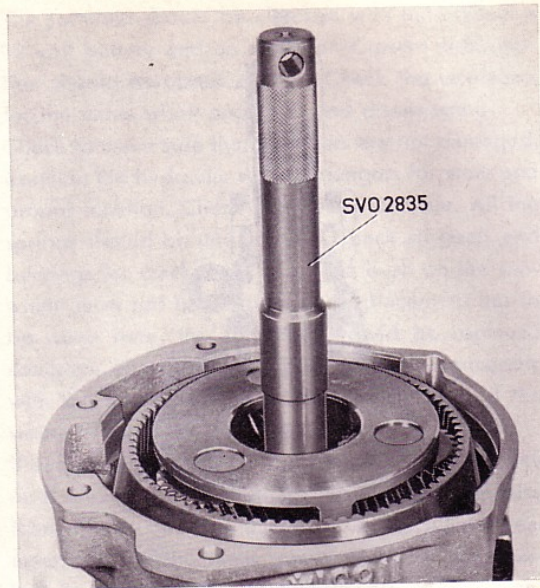

Fig. 32. Fitting the planet gear, II
3. Place the planet gear carrier complete with planet gears in position on the output shaft. Guide the splines into the planet gear carrier and the uni-directional clutch with drift SVO 2835, see Fig. 32.